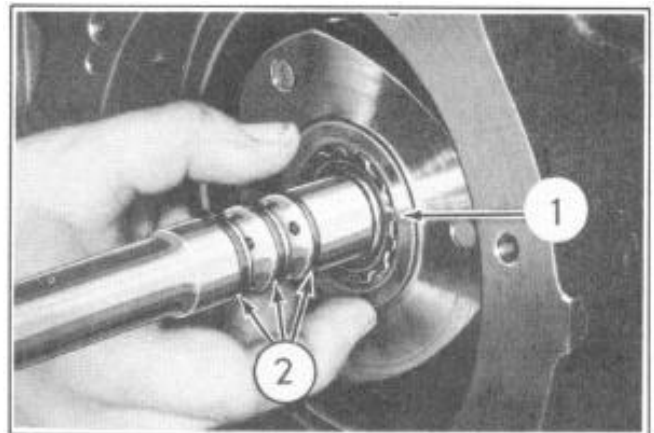

FIGURE 129
41. Apply petroleum jelly to the front planetary carrier thrust washer and place it in position on the rear ring gear shaft splines, Figure 129, with the steel face of the washer against the front planetary carrier.
42. If the front ring gear, Figure 90, or mainshaft, Figure 129, oil seal rings have been removed, install new rings as outlined under "Oil Seal Rings (Front Ring Gear), Installation", Page 59.